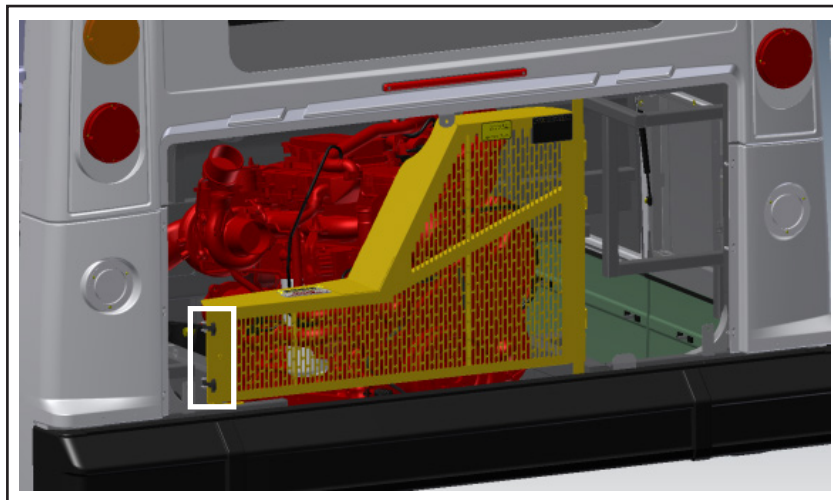

Figure 3 - View of Belt Guard Mounting Hardware
- 1.5. Open rear engine door and locate belt guard mounting hardware (see figure 3).